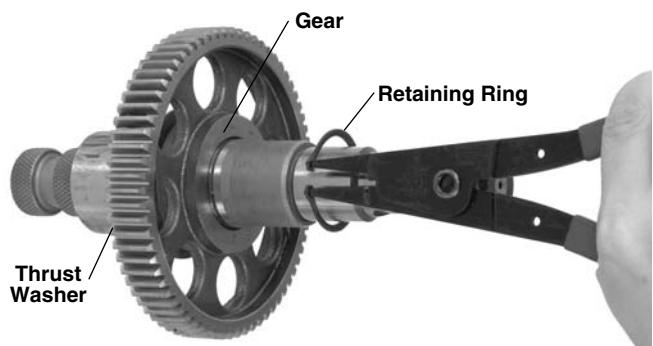

Figure 19 – Removing Retaining Ring
- Remove retaining ring from driveshaft and slide gear off. (*See Figure 19*.)